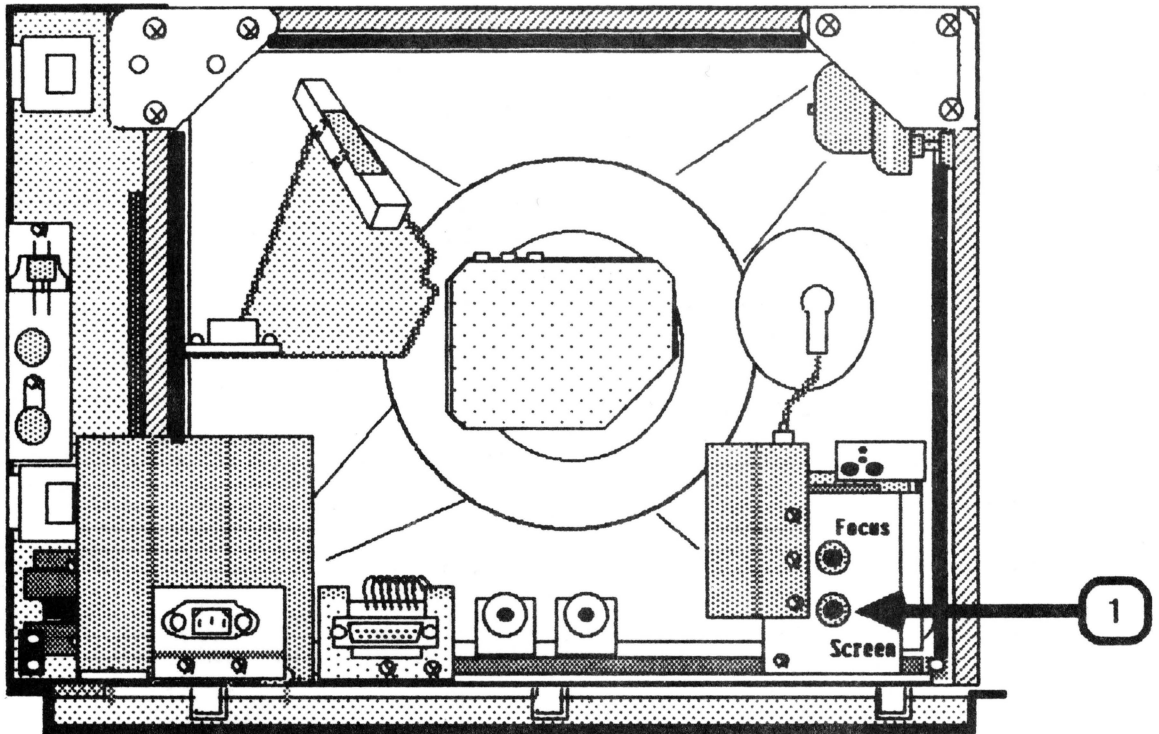

FIGURE 5
3. Turn the SCREEN pot (Figure 5, #1) counterclockwise as far as it will turn.